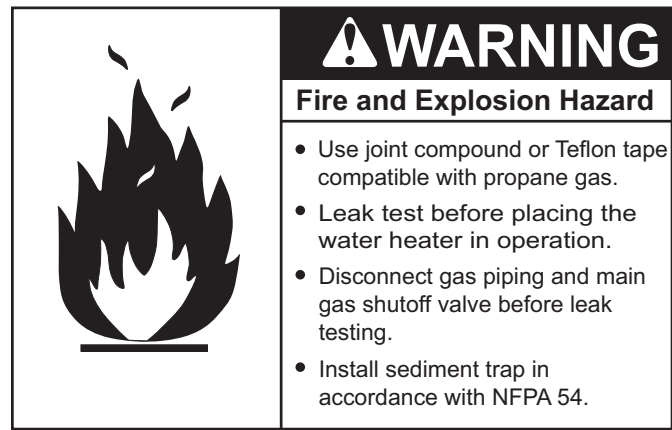

**Figure 53**
1. The water heaters covered by this manual are shipped from the factory with a 1 1/4" supply gas connection, see Table 1 on page 10. Short pipe nipples and reducer couplings are factory installed to increase the size of the water heater's 24 VAC Gas Valve inlet, see Figure 53. Connect the supply gas line to the water heater's 24 VAC Gas Valve in accordance with all applicable local and national code requirements. **DO NOT** use flexible gas piping.
Install a field supplied 1 1/2" x 1 1/4" reducer coupling and 1 1/4" pipe nipple to accommodate the minimum required 1 1/2" supply gas line as shown in Figure 53 on SUF 130 500 natural gas models (Series 100).